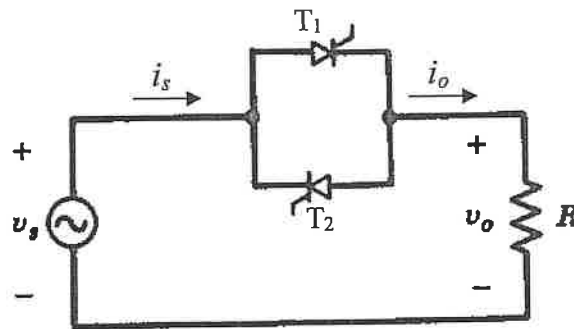

Figure 5.1: ac voltage controller.
- b) A single-phase, integral half-cycle controlled, ac voltage controller is shown in Figure 5.1. The input voltage  $v_s = \sqrt{2}V_s \sin \omega t$  and it has a resistive load  $R$  ( $>1 \Omega$ ). The input voltage is connected to the load for  $n$  half-cycles and disconnected for  $m$  half-cycles. Assume that the thyristors  $T_1$  and  $T_2$  are ideal.
- iii) The ac voltage controller shown in Figure 5.1 has a resistive load  $R = 10 \Omega$  and the rms input voltage  $V_s = 120$  V. The input voltage is connected to the load for 4 half-cycles and is disconnected for 2 half-cycles. Determine the input power factor of the ac voltage controller.